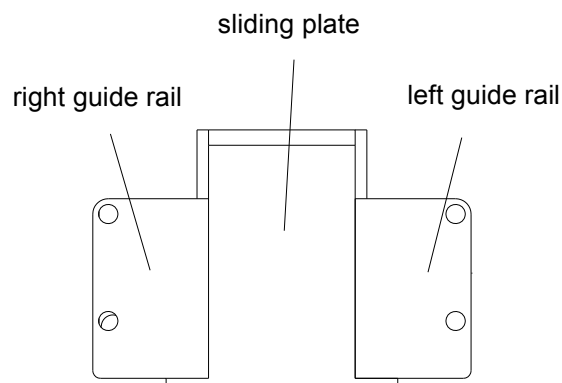
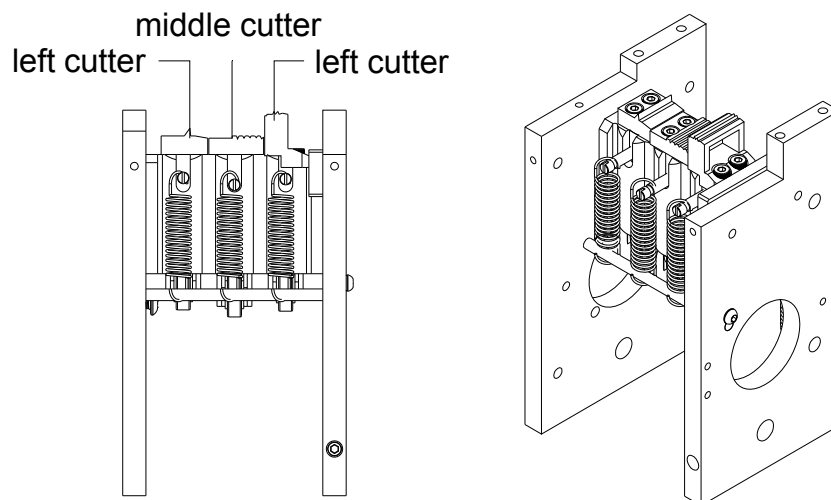

FIG 3-4
FIG 3-5
- ① Slide plate (refer to FIG 3-4), left cutter, middle cutter and right cutter (refer to FIG 3-5) should be lubricated with oil monthly.
- ② The place with the shaft and core bearing should be lubricated with oil once every 3 months.
- ③ Engine oil in the gearbox of the decelerator should be supplemented once every year.
- ④ Please notice that the following parts cannot be lubricated with oil:
→ Sliding plate: (Refer to FIG 3-4). Between the sliding plate, the left guide rail and right guide rail should fit exactly and the front movement of the sliding plate must be smooth. Therefore this position especially, needs to be cleaned and maintained. The cleaning procedure is summarized as follows:
- Regarding the left middle and right cutters, all of them must move up and down smoothly at the chamber base, or the machine cannot strap normally. Therefore cleaning and maintenance is very important. The method is as following: (refer to FIG 3-5).